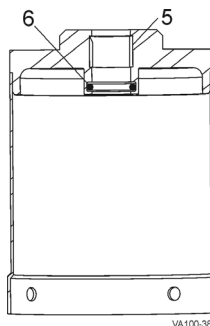

Figure 35: Remove O-ring and Bearing
6. Remove and inspect the upper stem o-ring (Figure 35, item 6) in the top of the actuator cylinder.
8. Inspect and replace the PTFE guide bearing (Figure 35, item 5) in the actuator cylinder as needed.